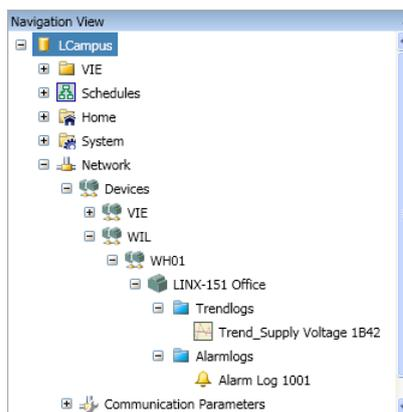

Figure 58: Device Trend and Alarm Logs
4. The new device is displayed in the navigation view. After the first data has been received via e-mail, the trend logs and alarm logs will be displayed in the corresponding folders (see Figure 58).